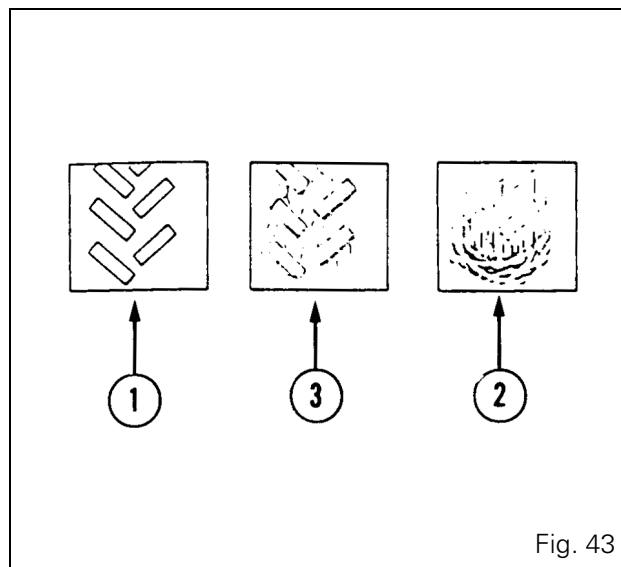

Fig. 43
Fig. 43: Under certain conditions the tractor may need ballasting to increase the traction power of the drawbar and reduce excessive wheel slip. This additional weight can be obtained by adding a calcium chloride solution to the tyres, fitting cast iron counter-weights to the wheels or a removable front ballasting weight. The weight required depends on the condition of the ground and the work to be undertaken.
2. Adjust the total tractor weight, maintaining the 40/60 distribution, until the wheels leave marks similar to those in diagram 2 of Fig. 43.